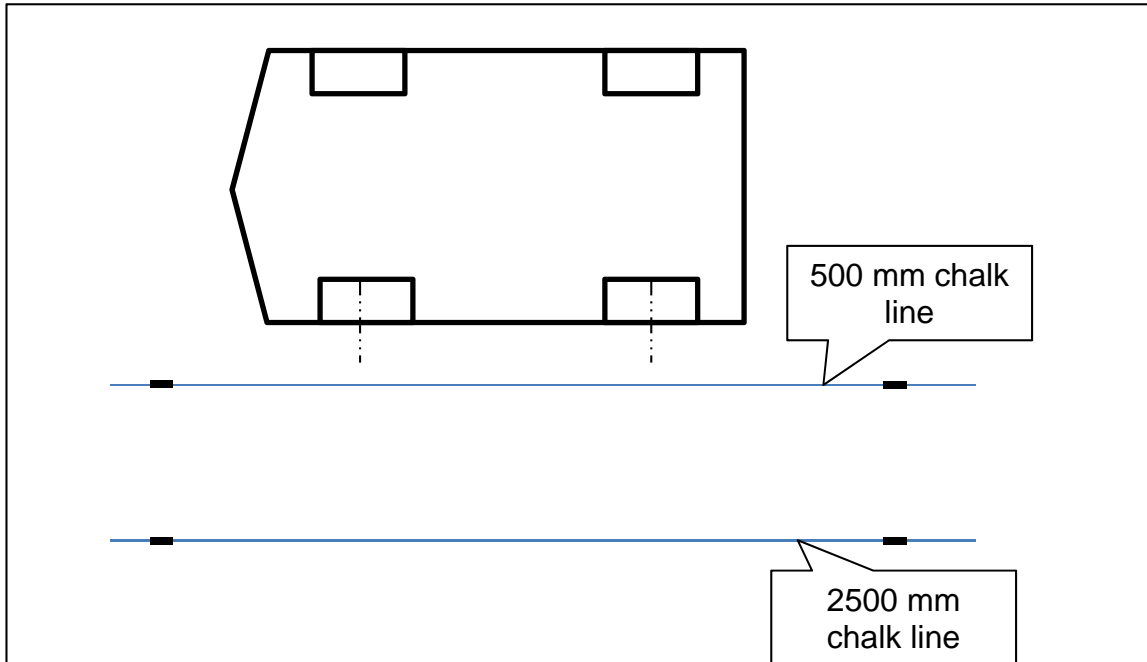
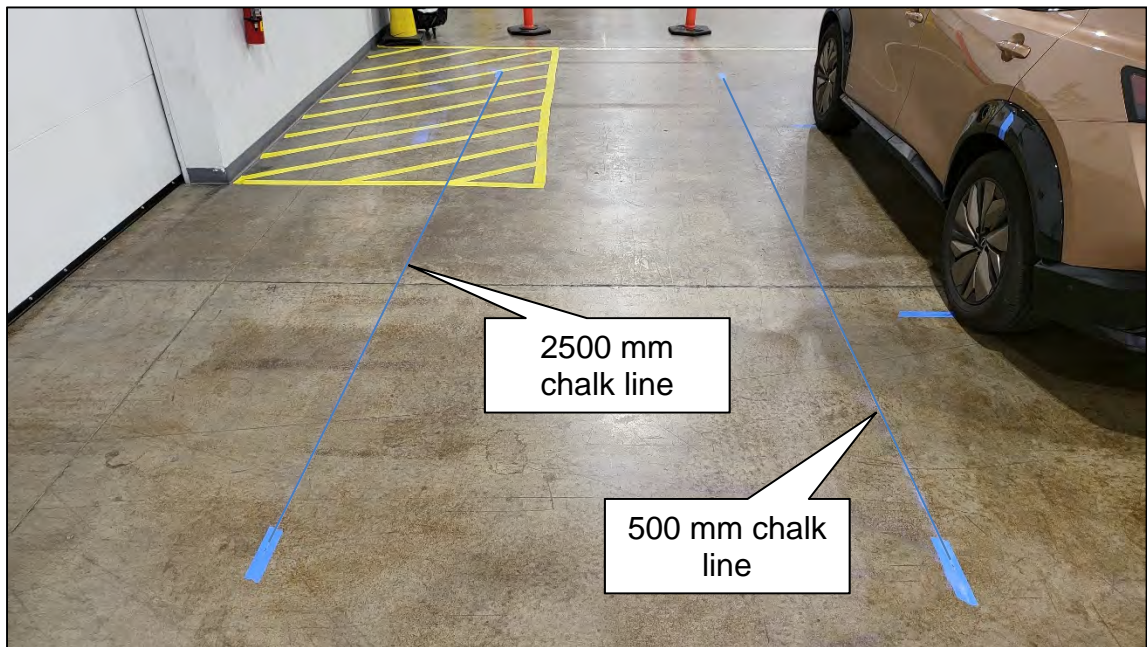

Figure 31
Figure 32
25. Use a chalk line tool to make a line between the 500 mm and 2500 mm marks, as shown in Figure 31 and Figure 32.